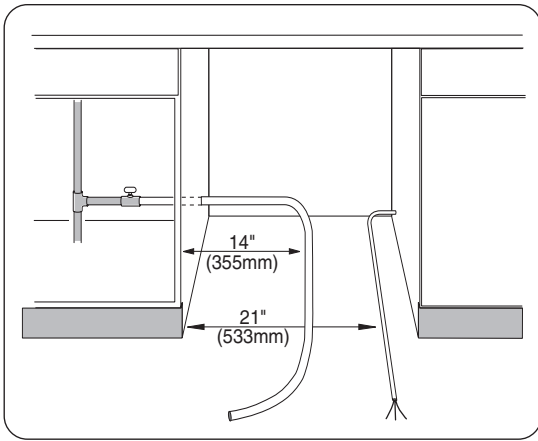

Figure 17
- 1 Straighten and position the hot water supply line and the electrical supply cable as shown in **Figure 17** so that they will align with their channels under the dishwasher base.